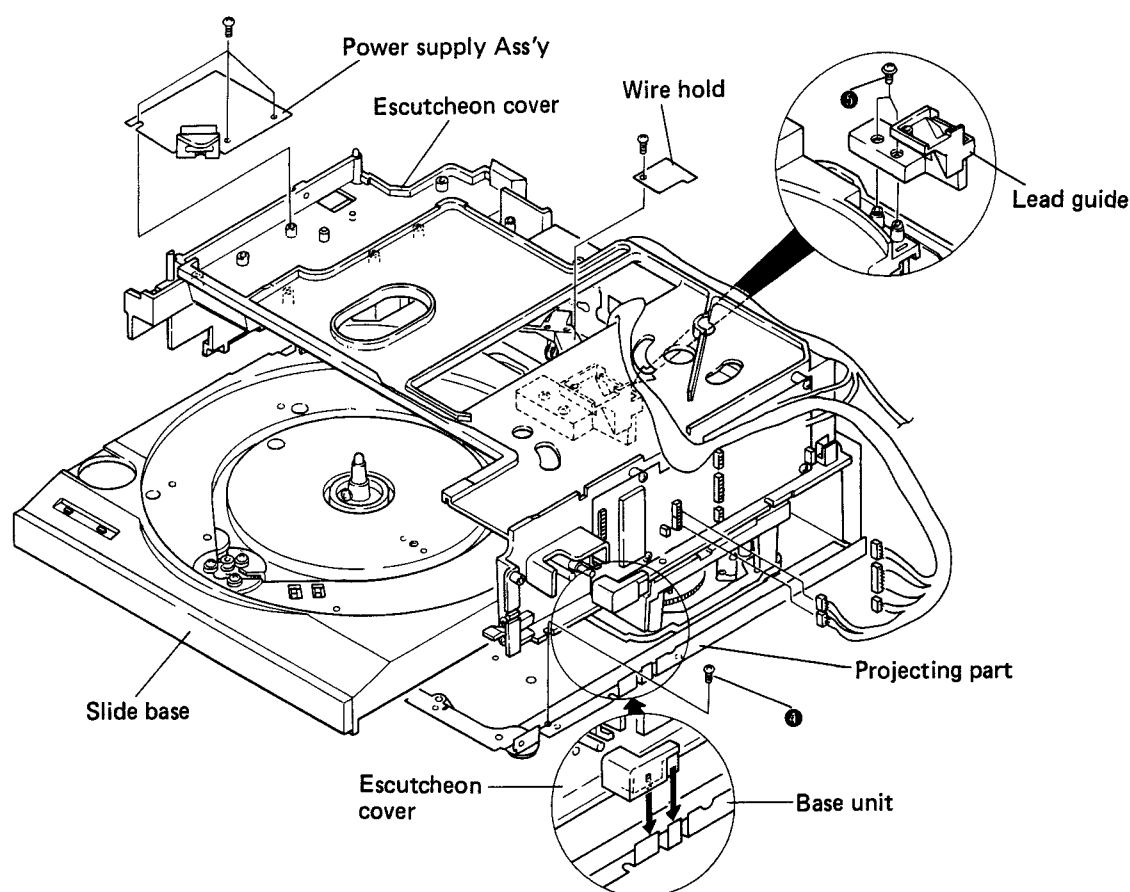
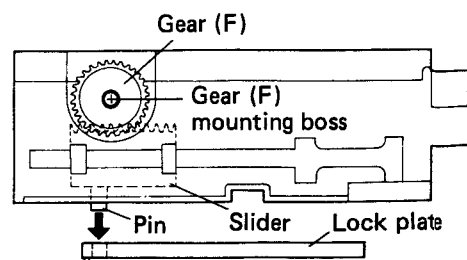

Fig. 1-21 Disassembly
Fig. 1-22 Mounting the escutcheon cover
Disconnect all connectors shown in Fig. 1-21 at this time. And since the tonearm is pushed back with considerable force, be especially careful when removing the escutcheon cover.
2. Replace the escutcheon cover so that the sides slip over the projecting parts of the base as shown in Fig. 1-21, and then secure by screwing in screws ①. Check that the slider pin has entered the lock plate hole at this time (see Fig. 1-22).